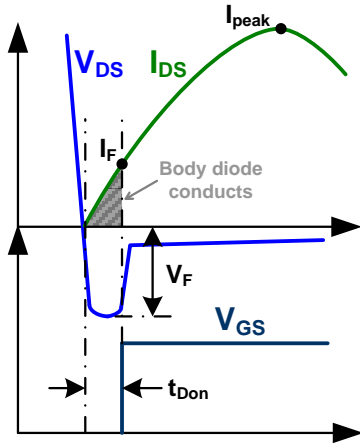

Figure 14: Turn-On Delay Effect on Efficiency
Figure 14 shows how t_{Don} affects system efficiency. During t_{Don} , the body diode of the SR MOSFET conducts, which leads to a power loss that can be calculated with Equation (3):